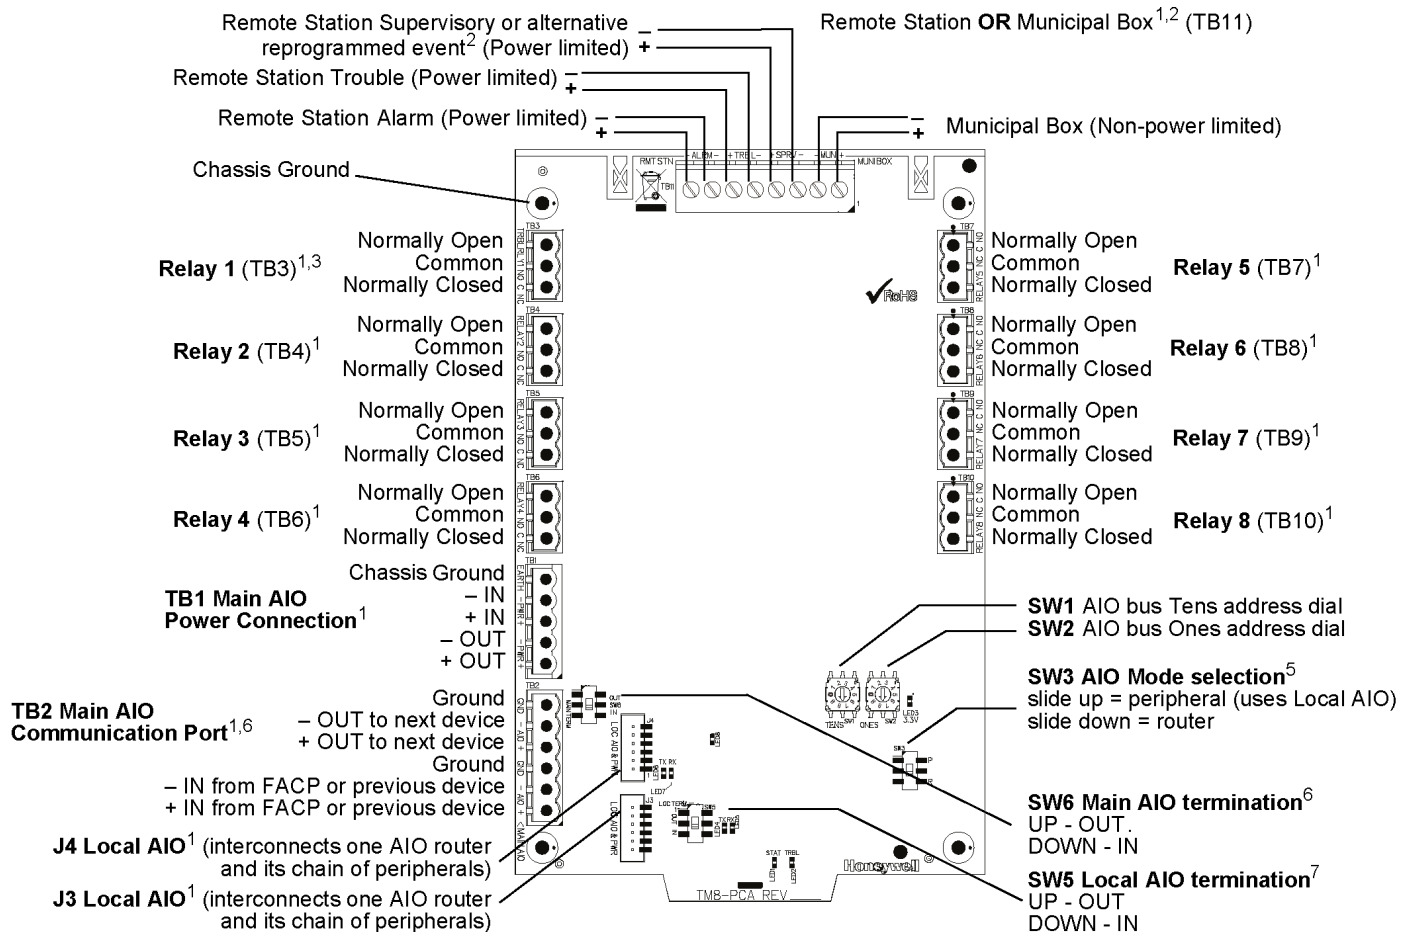
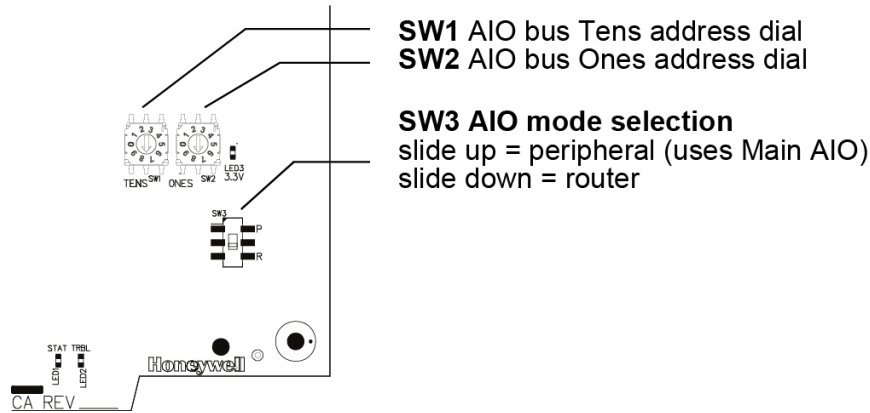

Figure 1.1: TM-8 Board Layout
Figure 3.1: AIO Switch Functions
Terminating the AIO circuit: AIO circuits use switches to enable termination resistors on the last device on the Main AIO circuit and last device on the Local AIO circuit. All other AIO devices should have these switches set to OUT. (See "Figure 1.1: TM-8 Board Layout" on page 6.)
- **Use SW3** to set peripheral/router function of TM-8. Slide up for peripheral; slide down for router. See Figure 3.1 for switch operation; see "Figure 1.1: TM-8 Board Layout" on page 6 for location on the board.